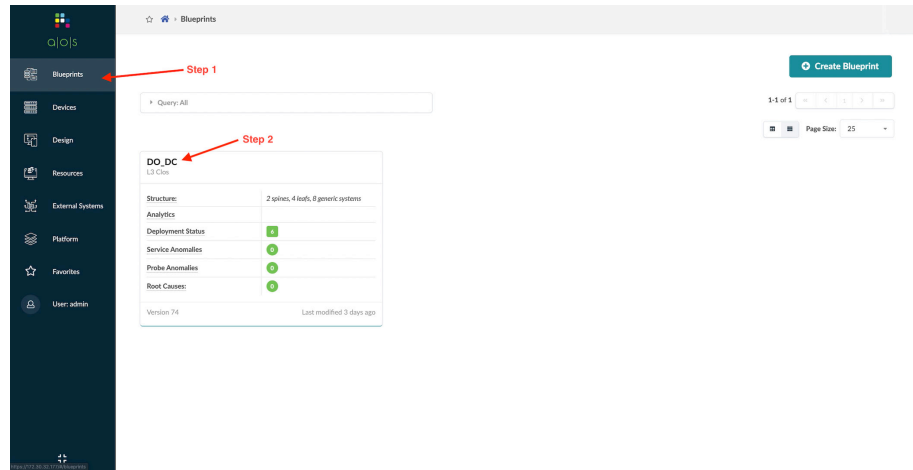

Figure 7.11 Verifying a Configlet Has Been Applied
Step 1:Go to Blueprint. See Figure 7.11.